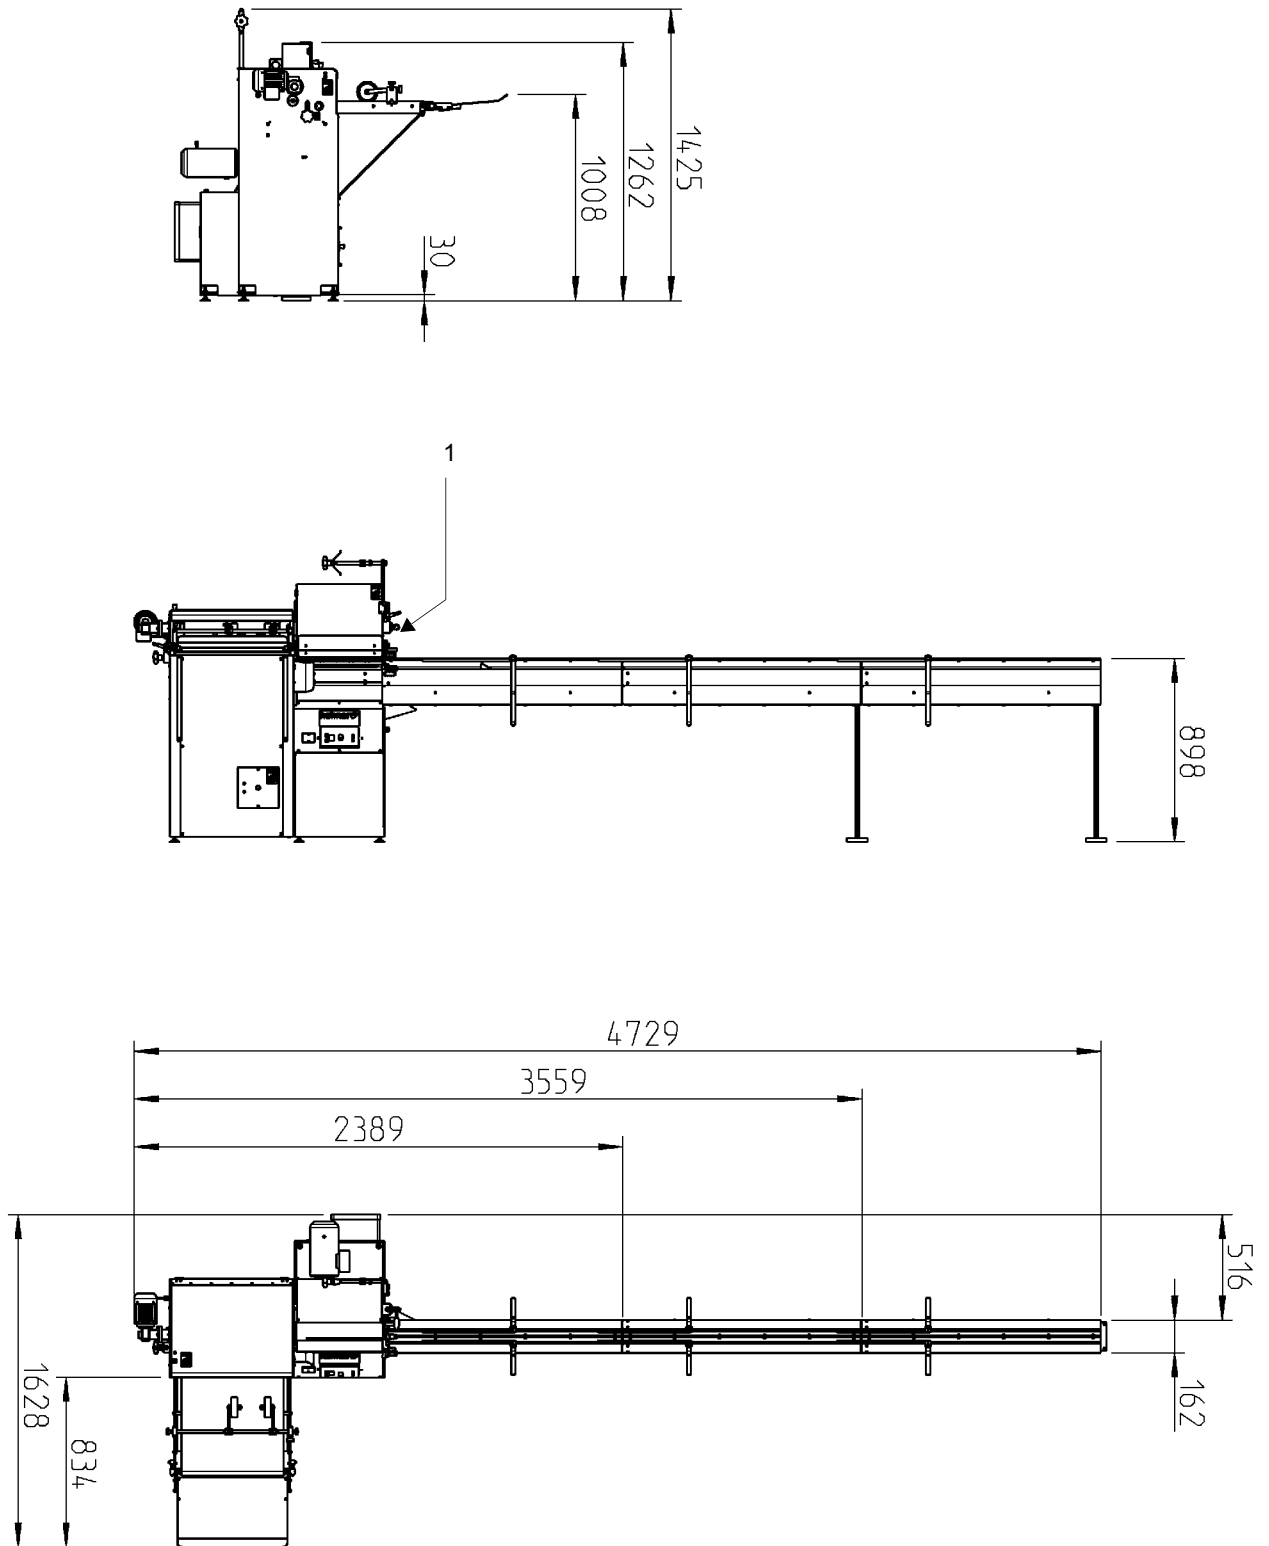

Fig. 2.4
- Fig. 2.4 -
The type plate and the CE labelling are fitted below the main switch - Fig. 2.4 -, Pos. 1.